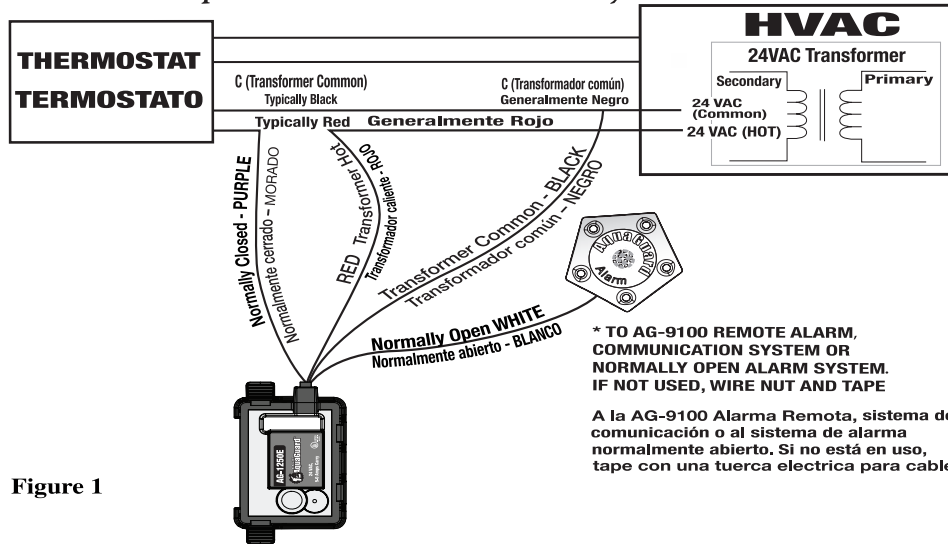

Figure 1
For Breaking "Wall Thermostat" Power Wire (see Figure 1)
- D. "WHITE", "Normally Open" wire of AG-1250E must be connected to AquaGuard, AG-9100 External Alarm (see Figure 1) or Home Alarm System, or Communicating System, etc..